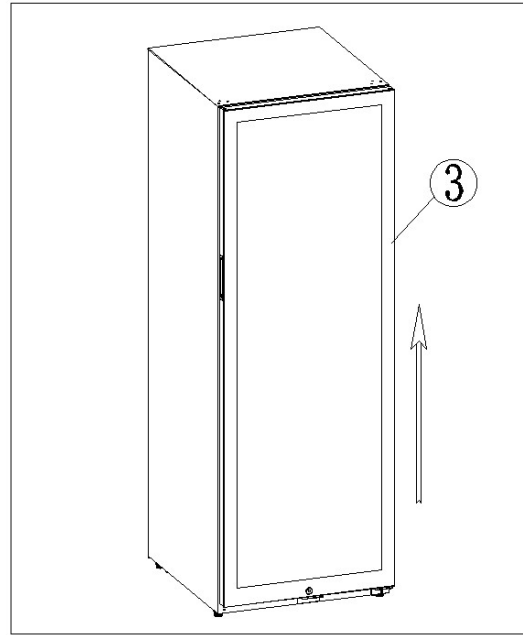

Figure 2
- 2) Then hold the door body ③ with both hands, slowly and vertically upward, and remove the door body. Carefully place on a protective cushion. see Figure 2.